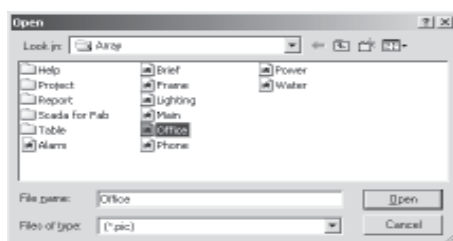

Fig. 4-39 Select the Picture Files
**Name:** Select the Name files and click the rectangle zone on the right of Picture, and the file open dialogue block as in Fig. 4-39 will be popped out. Select the directory path (the same directory as the Scada). If the °Office.pic± file exists, select the picture file and then the diagram corresponding to the Hot Area household Monitor is set as the picture °Office.pic±